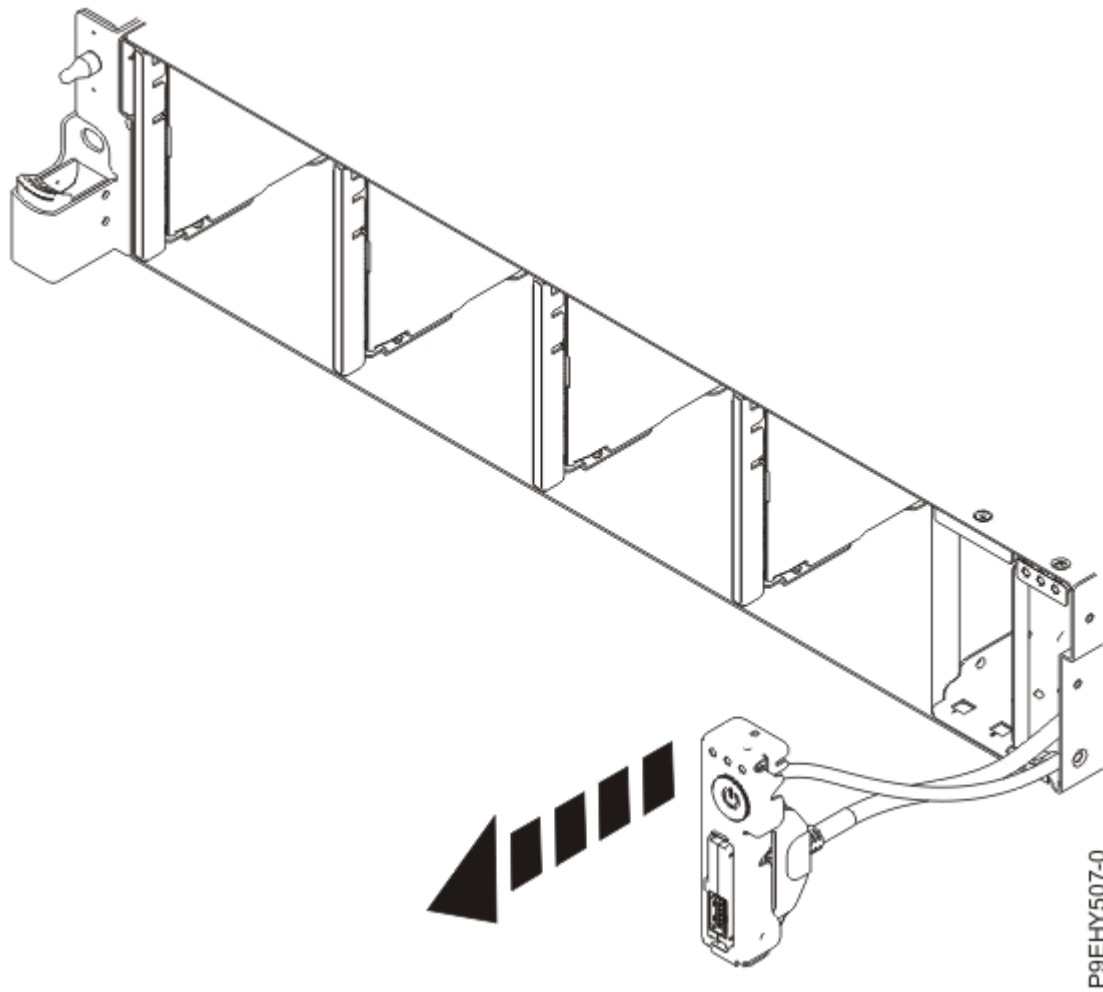

Figure 106. Pull out the power switch and cable
8. Pull the power switch from the system as shown in Figure 106 on page 120.